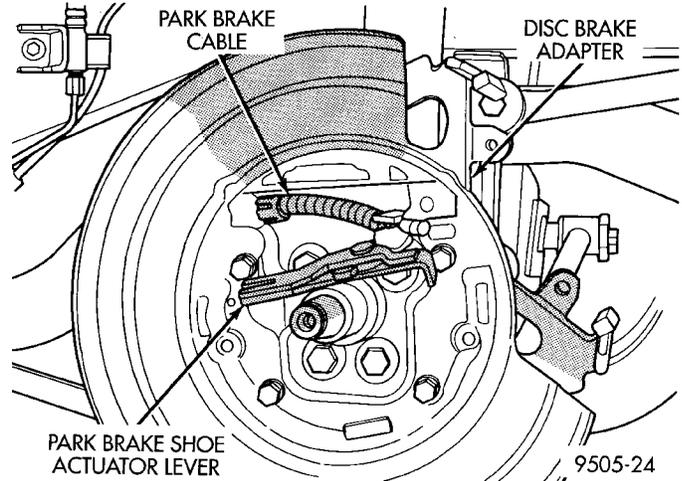
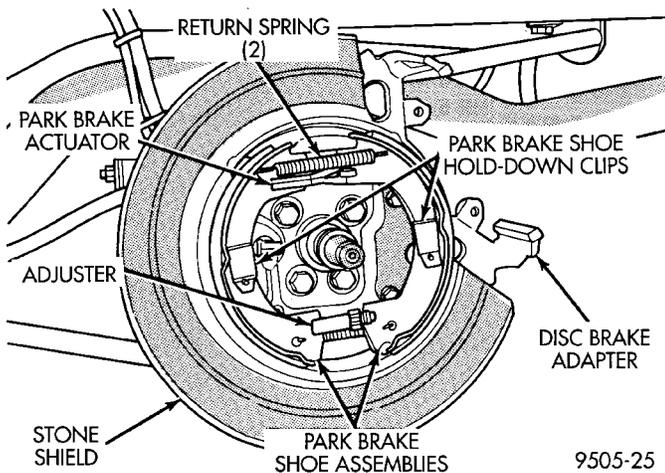
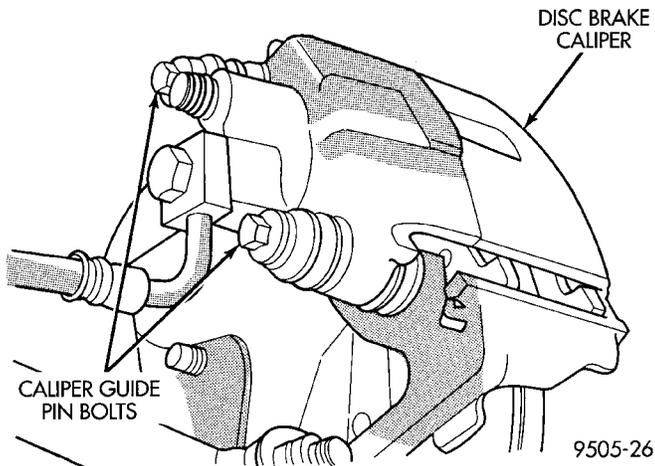
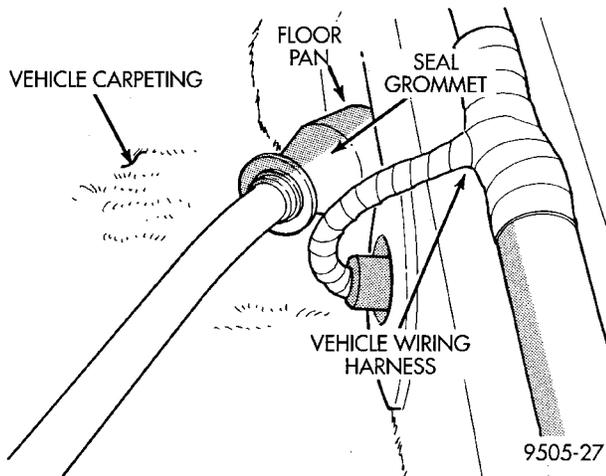

Fig. 149 Parking Brake Actuator Lever
Fig. 148 Parking Brake Shoe Assemblies
Fig. 154 Rear Caliper Guide Pin Bolts
Fig. 155 Seal Grommet Installation In Floor Pan
(19) **On vehicles equipped with rear disc brakes,** remove brake shoe assemblies (Fig. 148) from rear disc brake adapter. Then remove parking brake actuating lever (Fig. 149) from the park brake cable.
(5) **On vehicles equipped with rear disc brakes**, install park brake shoes actuator lever (Fig. 149) on park brake cable. Then install park brake shoe assemblies on disc brake adapter (Fig. 148).
(6) Install the hub/bearing assembly on the rear spindle. Then install **A NEW** rear hub/bearing assembly retaining nut. Torque hub/bearing assembly retaining nut to 217 N·m (160 ft. lbs.).
(7) Install hub/bearing assembly dust cap, using a soft faced hammer.
(8) On drum brake equipped vehicles, install rear brake drum on hub/bearing assembly. On vehicles equipped with rear disc brakes, install rotor on hub/bearing assembly.
(9) On disc brake equipped vehicles install disc brake caliper on disc brake adapter. Install the 2 caliper guide pin bolts (Fig. 154) and torque to 22 N·m (192 in. lbs.). Refer To Rear Disc Brake Service in this group of the service manual for the required caliper installation procedure.
(10) Install rear wheel and tire assembly on vehicle. Tighten all wheel stud nuts in criss cross pattern to one-half specified torque. Then repeat pattern, fully tightening stud nuts to 135 N·m (100 ft. lbs.).
(11) Lower vehicle.
(12) Grasp park brake cable to floor pan seal grommet (Fig. 155) by hand, and pull it into floor pan to ensure seal grommet is fully seated into floor pan.
(13) Route park brake cable under carpeting and up to park brake cable retaining bracket on floor